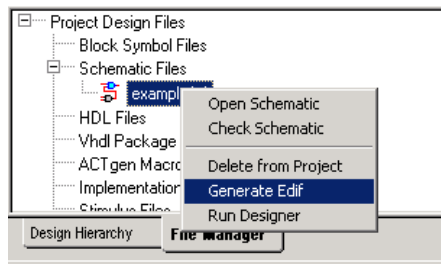

Figure A-1. Generate Edif
2. **Select *Generate Edif* from the right-click menu, as shown in Figure A-1.**